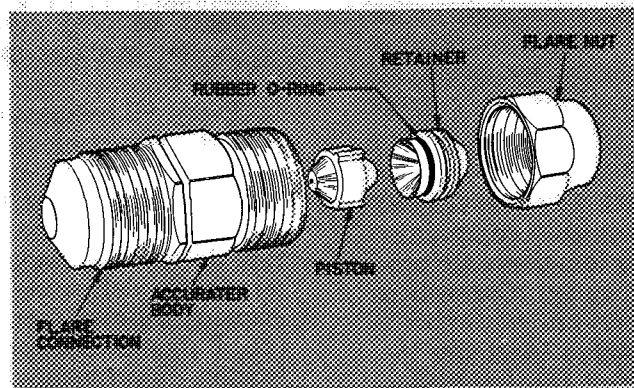

Fig. 33 – AccuRater™ (Bypass Type) Components
**AccuRater™ (Bypass Type) Servicing** — See Fig. 33 for bypass type AccuRater components. The piston has a refrigerant metering hole thru it. The retainer forms a stop for the piston in the refrigerant bypass mode, and a sealing surface for liquid line flare connection. To check, clean or replace piston: